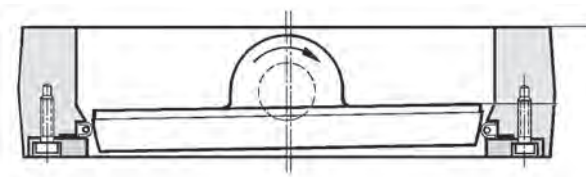

Fig. 4. Adjusting a new seat ring.
1. Close the valve to the sealing position corresponding to the value of dimension "A" shown in Fig. 4.
4. Adjust the end position stop until the actuator has turned the valve disc to the sealing position, i.e. dimension "A" shown on the valve in accordance with section 9.4 and Fig. 4.
5. Adjust the end position stop until the actuator has turned the valve disc to the sealing position. This sealing position varies from valve to valve, and the dimension is specified on the valve body adjacent to the arrow showing the direction of flow. See dimension "A" in Fig. 4 in section 9.4.